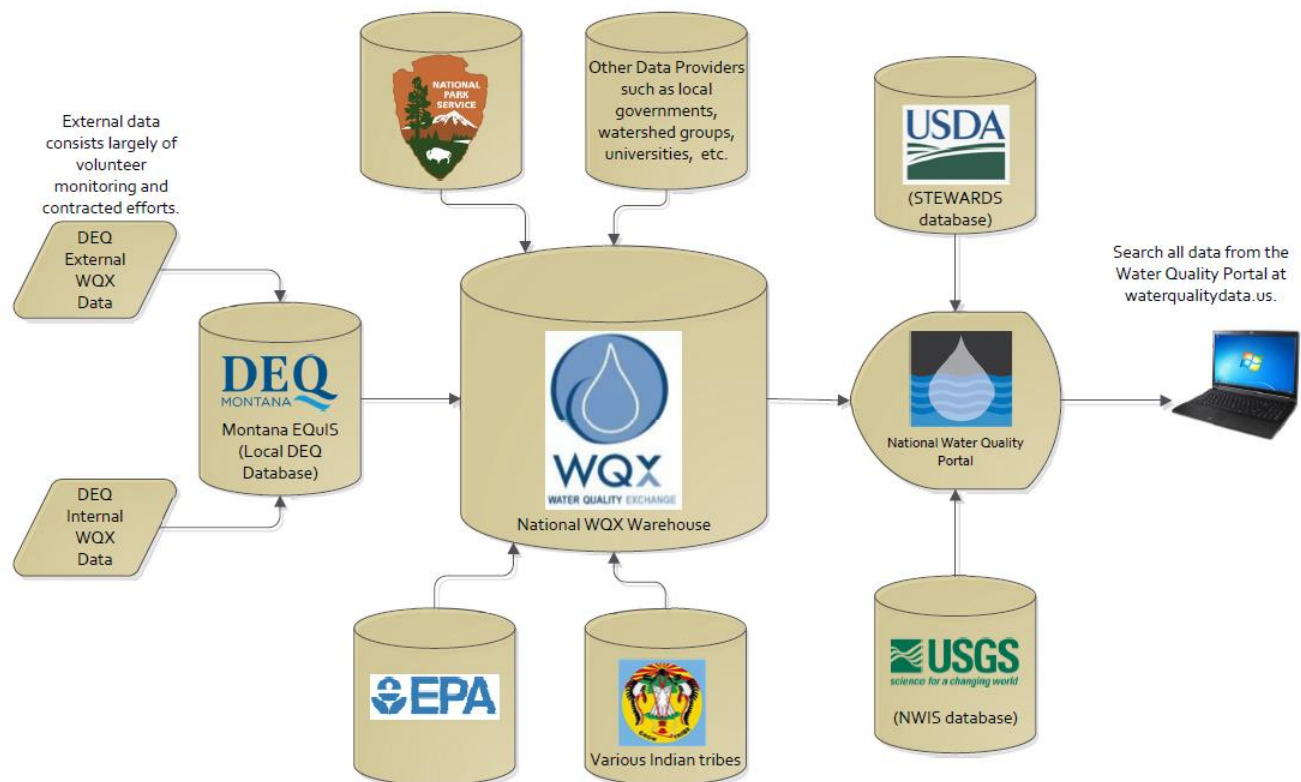

Figure 1. EQiS (MT-eWQX) and National WQX Warehouse Data Flow (figure revised 1/21/2022)
- Figure 1. EQiS (MT-eWQX) and National WQX Warehouse Data Flow
DEQ and other data partners submit water monitoring data to the Environmental Protection Agency (EPA) via the national Water Quality Exchange (WQX) (**Figure 1**). Data uploaded to Montana's MT-eWQX database is sent to the national WQX database approximately weekly. Grant recipients or contractors collecting environmental data using federal Clean Water Act (CWA) funding sources, including 319, 604, or 106 grants, must transmit this data to EPA using WQX and data submittal to MT-eWQX fulfills this requirement.